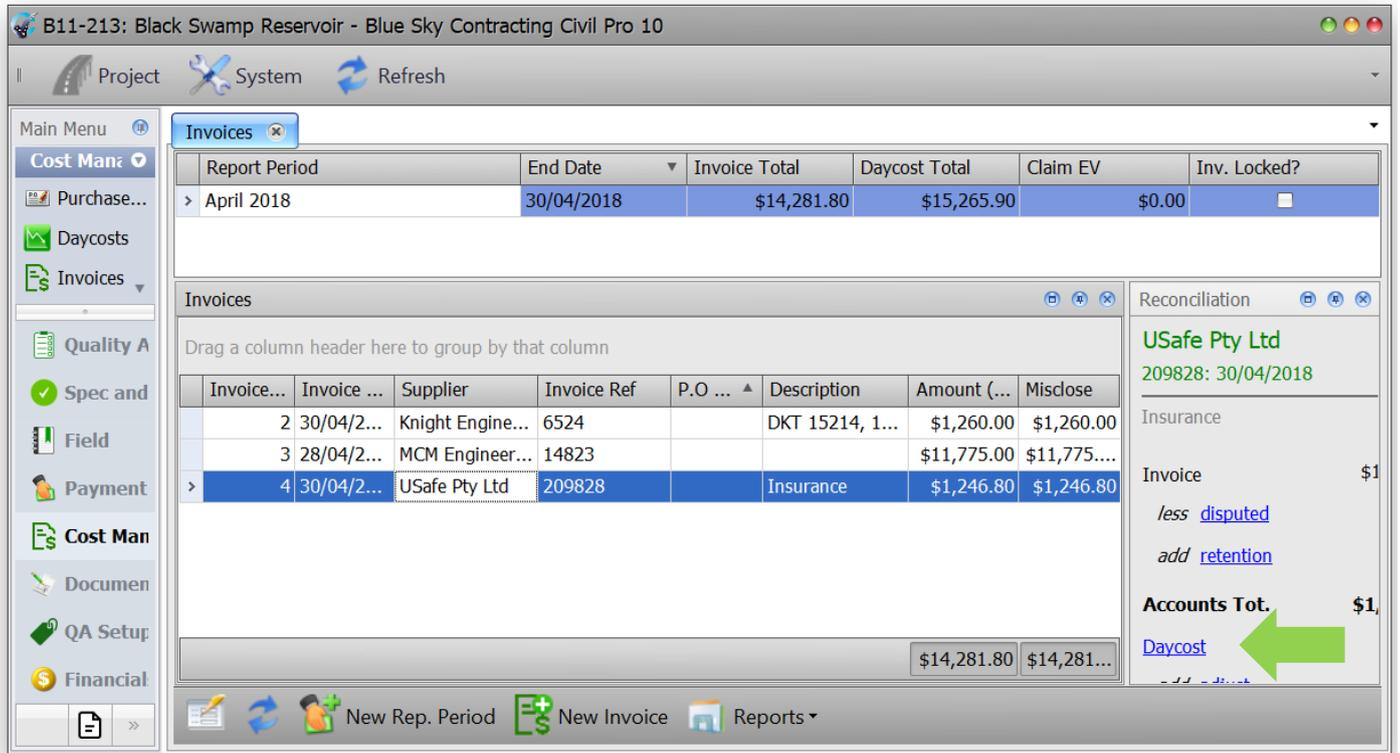

Figure 74 Daycost link in Reconciliation panel
1. Within the Invoice Register either double click on the Usafe Pty Ltd in the Invoices register details screen or click on the *Daycost* link in the Reconciliation summary panel (Figure 74).